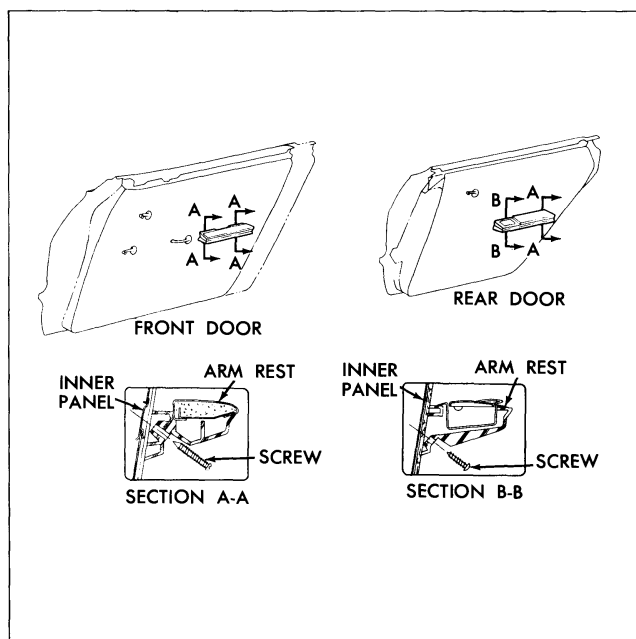

Fig. 3-17 Door Arm Rests
1. Remove screws securing arm rest to door inner panel and remove arm rest from door (Fig. 3-17).
1. For in out and up or down adjustments, loosen hinge to door pillar attaching bolts (Fig. 3-17). Adjust door as required and tighten bolts.
2. To adjust fore or aft, loosen hinge to body pillar attaching bolts (Fig. 3-17). Adjust door as required and tighten bolts.